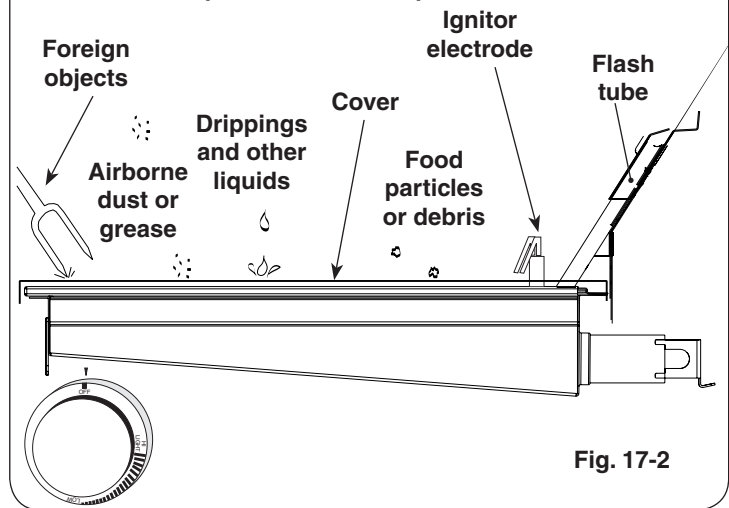

Fig. 17-2
- When not in use, **always** cover the infrared burner with the stainless-steel cover. This protects the burner from drippings (from other cooking), airborne particles, and foreign objects (Fig. 17-2).
- Do not strike or scratch the burner ceramic as it may chip, crack, or break (Fig. 17-2).